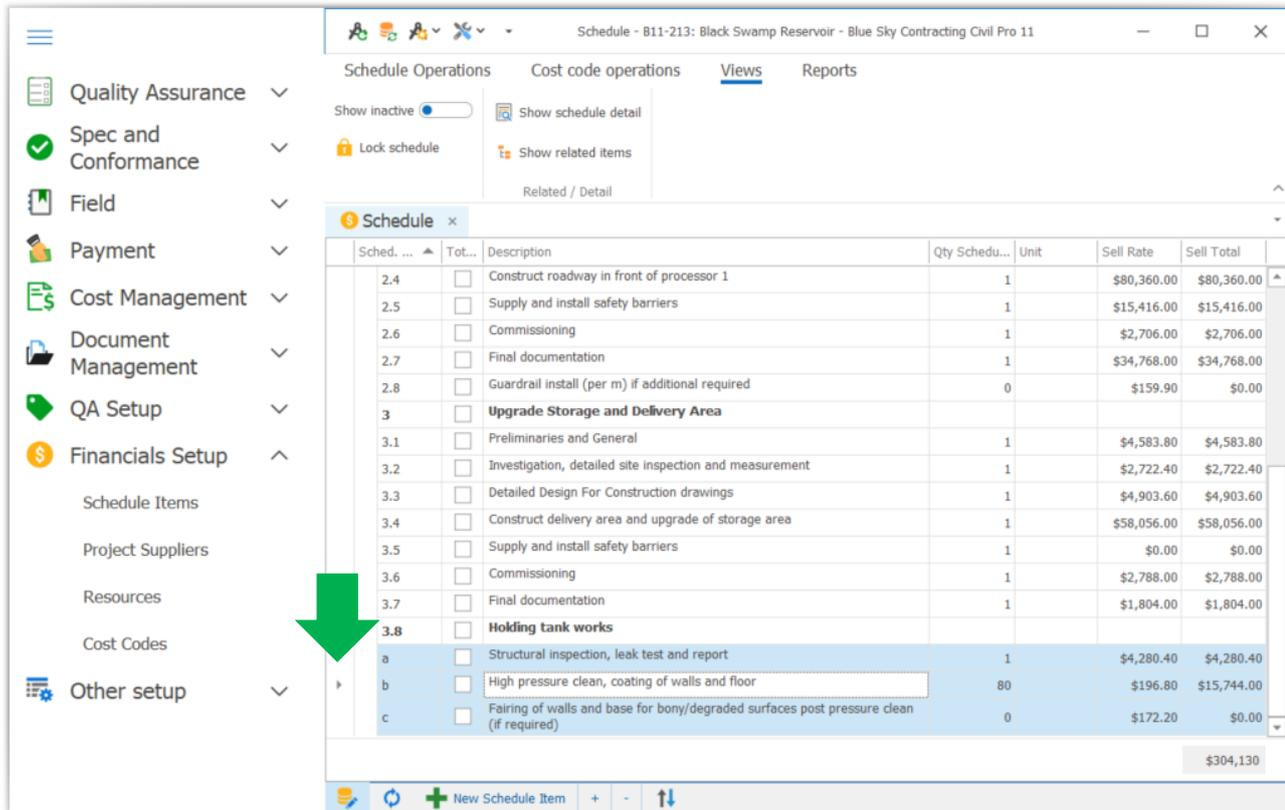

Figure 14 The Record Selector
1. Select one or more schedule items. The easiest way to do this is to select, and then grab them using the record selector - the grey rectangle at the left of the text as in Figure 14.